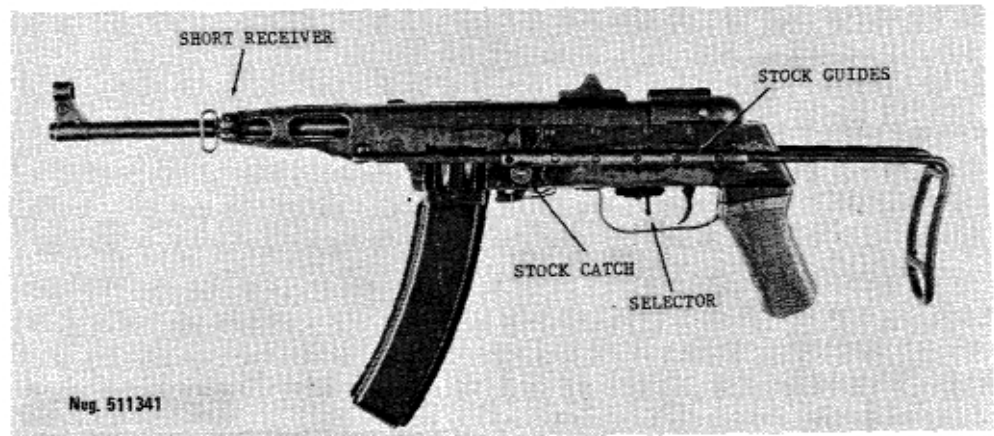

Figure 42. North Vietnamese K-50M submachinegun.
a. The K-50 Modified submachinegun (fig 42) is an extensively altered PRC type 50 submachinegun (itself a copy of the Soviet PPSH-41) that is used by the Viet Cong in Vietnam. The most obvious changes are the sliding metal butt tock, the short barrel jacket that eliminates the original muzzle brake-compensator, and the wooden pistol grip. The lower receiver has also been reshaped.
The K-50 Modified submachinegun is operated and functions exactly like its parent weapons, the PRC Type 50 submachinegun and the Soviet PPSH-41. See paragraphs 57, 58, and 59 for information. An additional feature, the telescoping stock, is operated by pressing in the stock catch at the front of the guides (fig 42) and sliding the stock to the desired position.